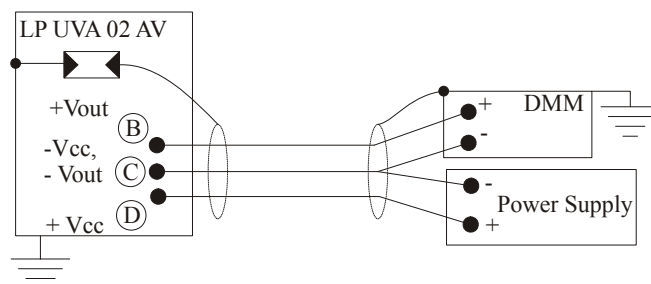

Fig. 9
- LP UVA 02 AV is to be connected to a DMM and a power supply as show below (Figure 9). To read the signal, the load resistance must be  $\geq 100k\Omega$